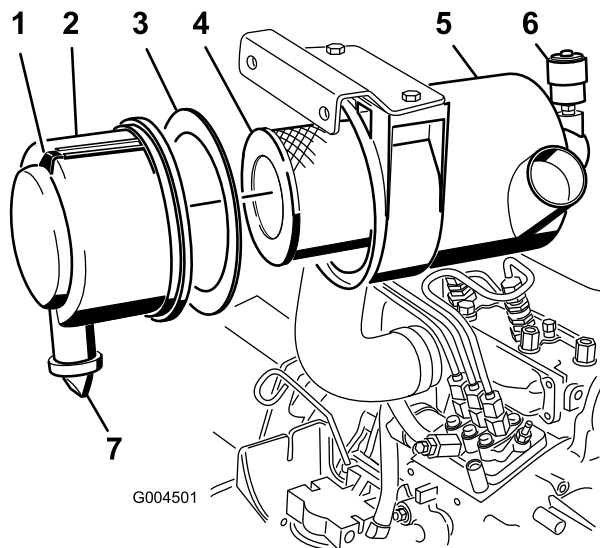

Figure 58
- Service the air cleaner filter when the air cleaner indicator (Figure 58) shows red or every 400 hours (more frequently in extremely dusty or dirty conditions). Do not over service the air filter.
1. Pull the latch outward and rotate the air cleaner cover counter-clockwise (Figure 58).
2. Remove the cover from the air cleaner body (Figure 58).
4. Remove and replace the primary filter (Figure 58).
6. Ensure that the foam gasket is in place in the cover and that it is not torn or damaged (Figure 58). If it is damaged, replace it.
- A. Remove the rubber outlet valve from the cover (Figure 58).
10. Reset the indicator (Figure 58) if showing red.